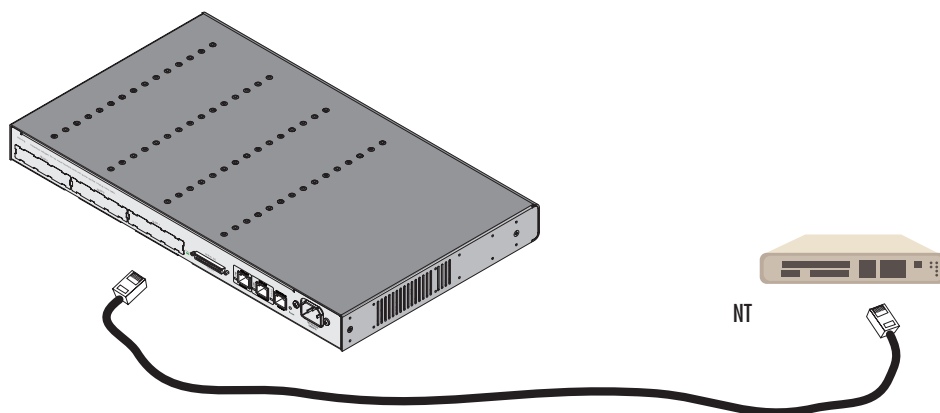
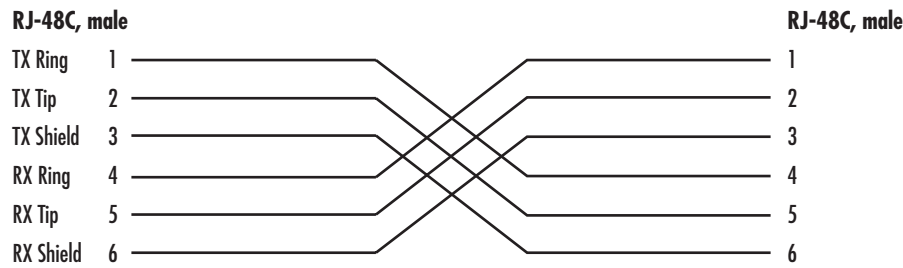

Figure 66. Connecting an T1 PRI port to an NT
Figure 67. T1 crossover cable
The PRI is usually connected to a PBX or telco switch—local exchange (LE). The type and pin outs of these devices vary depending on the manufacturer. In most cases, a straight-through RJ-45 to RJ-45 can be used to connect the PRI (see table 35 for IC-T1V card port pin-out listing) with a PBX (an NT). (See figure 66). A cross-over cable is required to connect to an LE, as illustrated in figure 67.